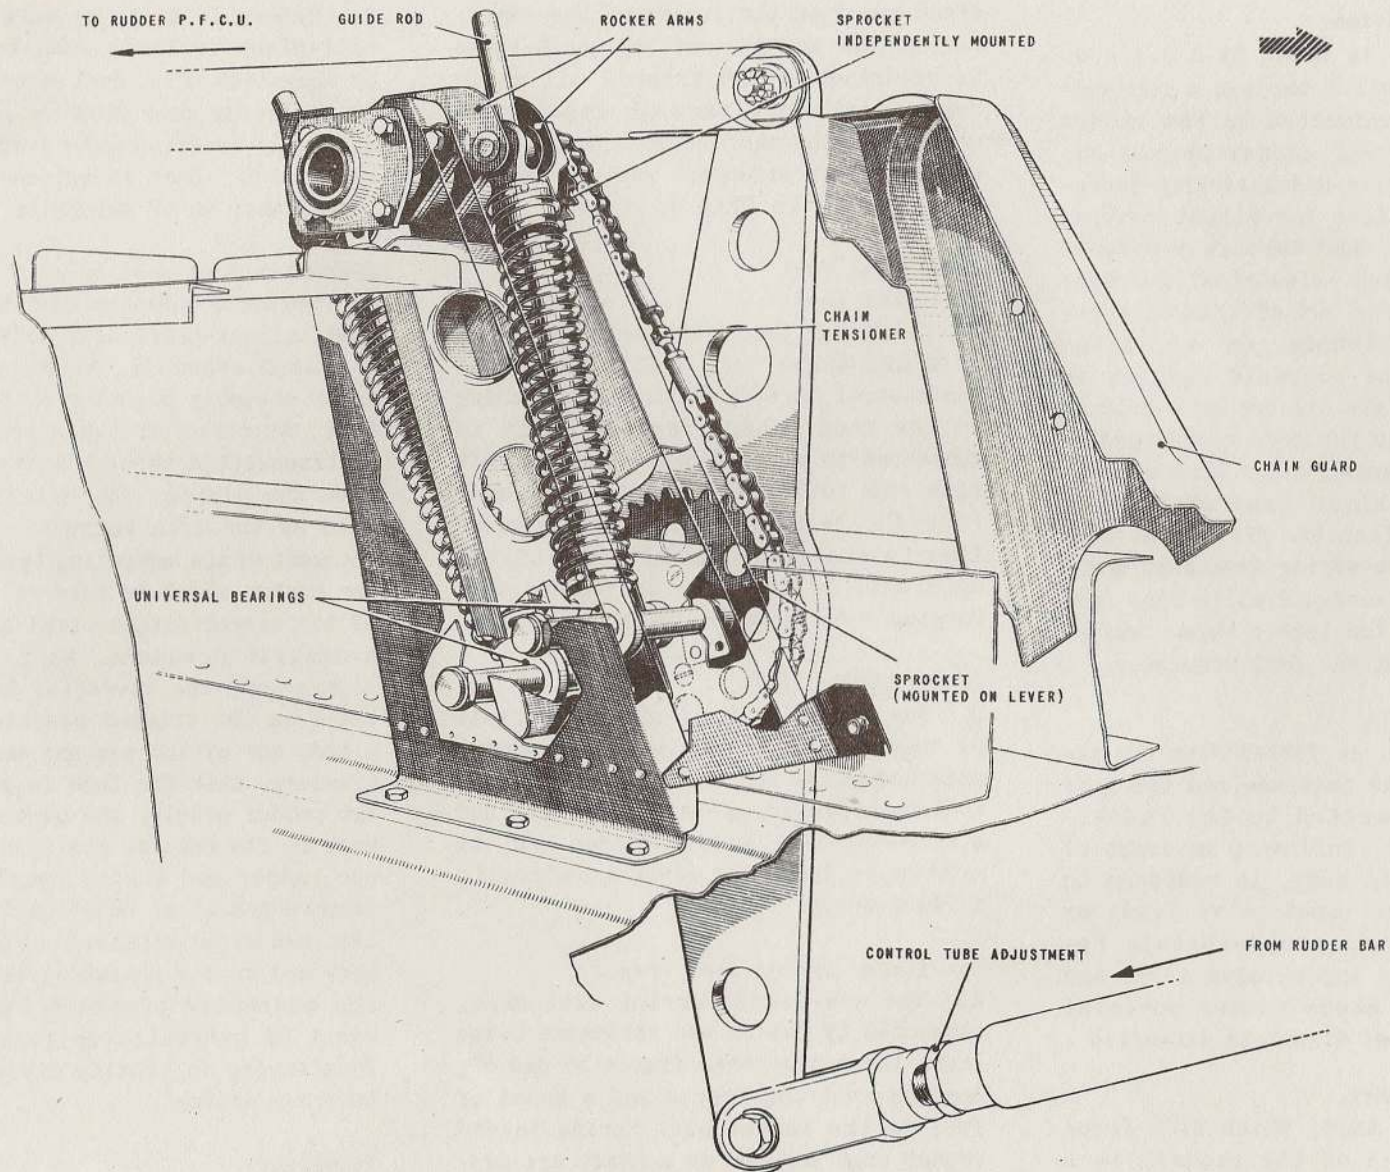

FIG.2. NON-LINEAR SPRING FEEL MECHANISM
1. The rudder is moved by a p.f.c.u. which is controlled through a rod-and-lever system connected to the rudder pedals for normal rudder operation; through an electro-hydraulically operated autostabilizer for flight control system signals, and through a cockpit switch-controlled, electrically-operated, actuator for out-of-trim corrections. Inertia forces, set up in the control run due to rapid changes in forward speed, are off-set by a balance weight fitted to the port rudder pedal. A hydraulic damper, which also constitutes the upper hinge, damps any tendency toward rudder flutter. Artificial feel is provided by a spring feel unit and a combined spring-and-hydraulic feel unit (*fig. 2 and 4*), the latter being subject to pressure from the feel simulator.
*Non-linear spring feel (fig. 2)*